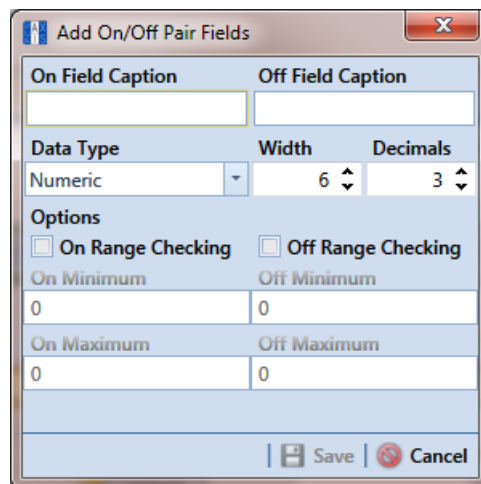

Figure 3-56. Add On/Off Pair Fields
- Click **On/Off Pair** in the toolbar to open the *Add On/Off Pair Fields* dialog box (Figure 3-56).
- 7 If you selected the *Numeric* data type earlier in step 6 (page 103), set the length of the field using the **Width** and **Decimal** fields (Figure 3-56, page 102).